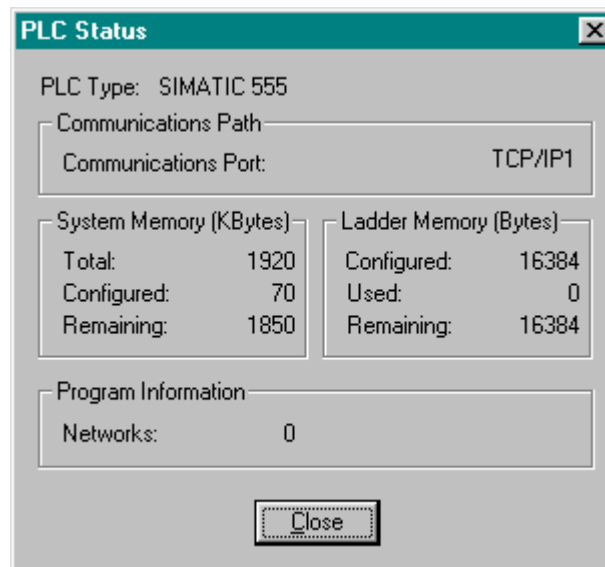

Figure 6.10 Offline PLC Status
4. Either the PLC Status for online or offline is displayed (see Figures 6.10 and 6.11).